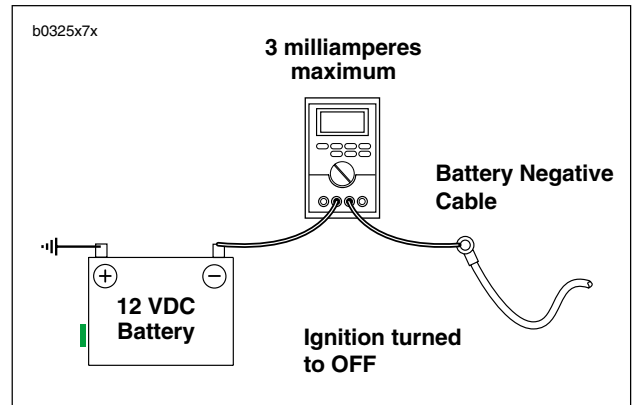

Figure 7-38. Milliampere Draw Test
1. See Figure 7-38. Connect ammeter between negative battery terminal and battery. With this arrangement, you will also pick up any regulator drain.